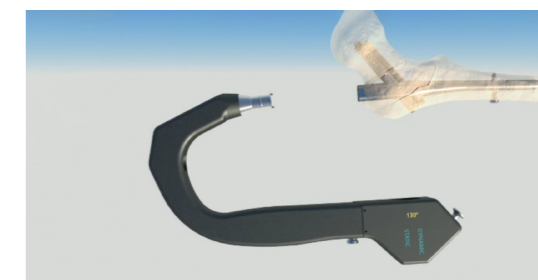

Figure 19a
- Remove the aiming frame (Figure 19a) and use a tail cap wrench to screw the tail cap into the main nail (Figure 19b).